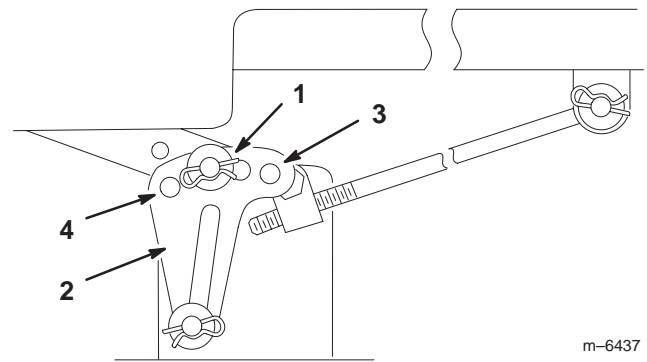

Figure 39
6. Remove the hairpin cotter and washer from the leveling bracket (Fig. 39).
7. To level the blade(s), reposition the leveling bracket(s) in a different hole and install the washer and hairpin cotter. (Fig. 39). A front hole lowers the blade height and a rear hole raises its height. Adjust both sides as required.